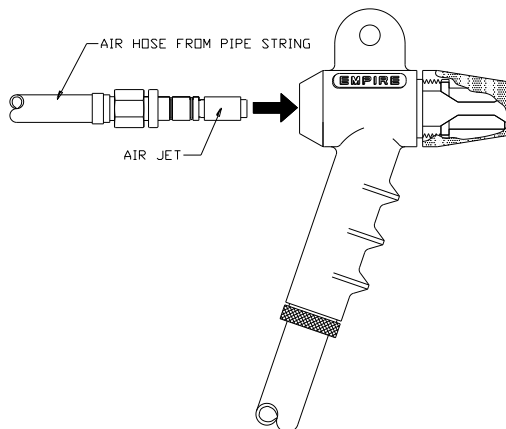

Figure 13. Air Jet
Step 5: Loosen the set screw in the side of the gun body and remove the air jet. See Figure 13.